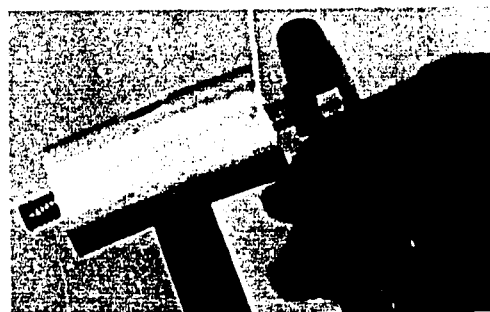

Fig. 68-3. Tightening Nuts
4. Thread both studs into mallet head by locking two nuts and tighten with a wrench. See Fig. 68-3.